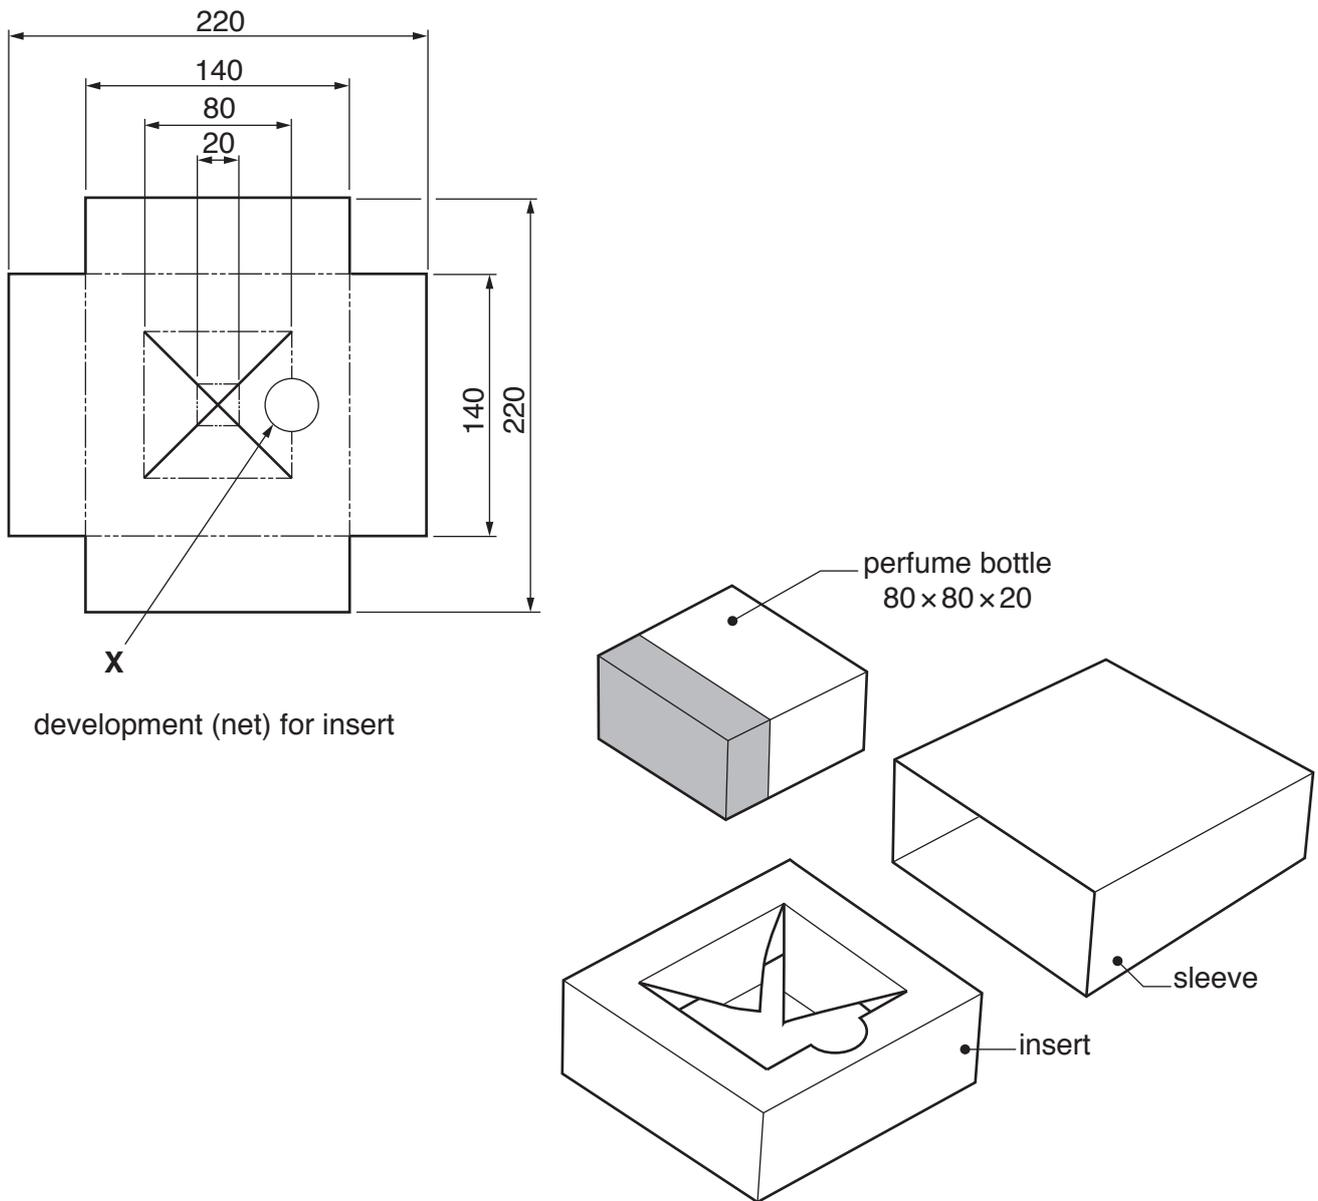

Fig. 5
- 5 Fig. 5 gives details about a perfume bottle and its packaging. The packaging consists of two parts, an insert and a sleeve into which the insert slides.